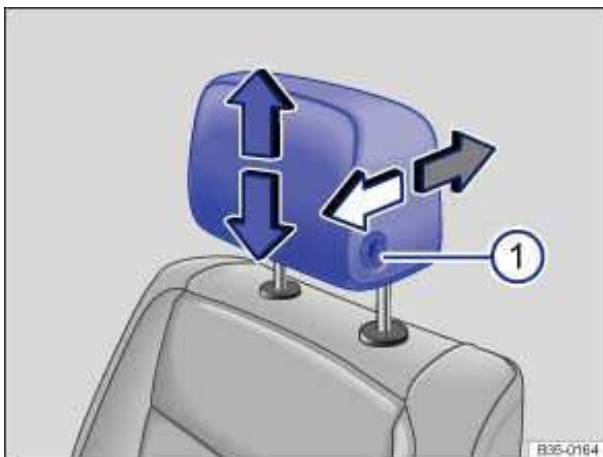
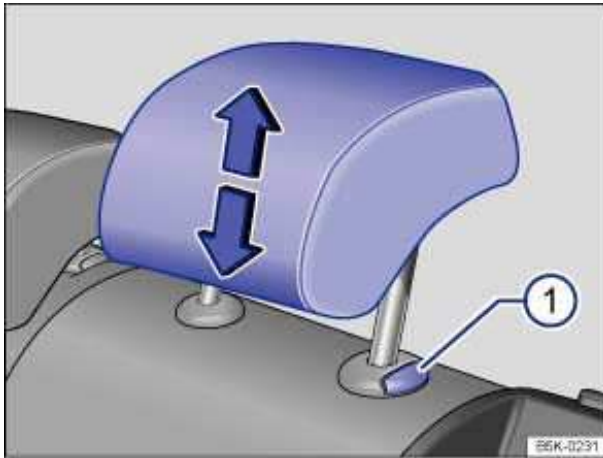

Fig. 36 Adjusting the front head restraints.
Fig. 37 Adjusting the rear head restraints.
- Push the head restraint up in the direction of the arrow or down when the button ⇒ fig. 36 \(1\) or ⇒ fig. 37 \(1\) is pressed ⇒ ⚠.
- Push the head restraint forward in the direction of the arrow or slide it back with the button pressed ⇒ fig. 36 \(1\).